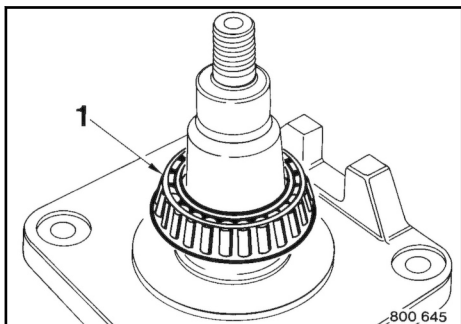

Fig. 197
1. Press taper roller bearing 1 ↗ Fig. 197 onto the bearing journal.